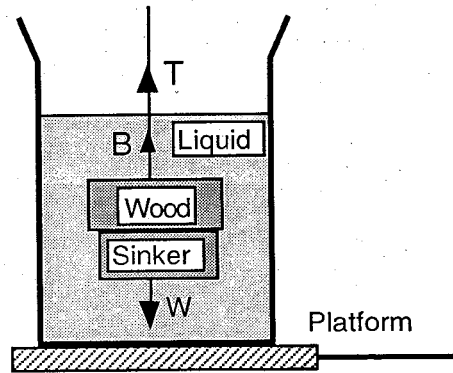

Fig. 2
7. Tie the wooden cylinder and metal cylinder together and suspend them in water as shown in Fig. 2. Thus find the total apparent weight of the wooden cylinder and metal cylinder when they are completely immersed in water.